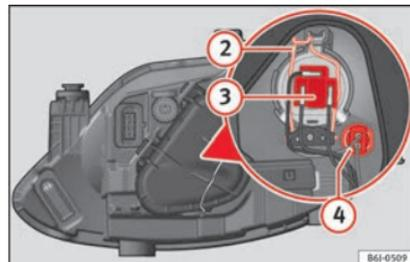

Fig. 92 Dipped beam/main beam and side light of the single headlight.
- Remove connector » Fig. 92 ③ from the bulb.
- Unclip the retainer spring » Fig. 92 ② pressing inwards to the right.
- Extract the bulb holder » Fig. 92 ④ outwards.